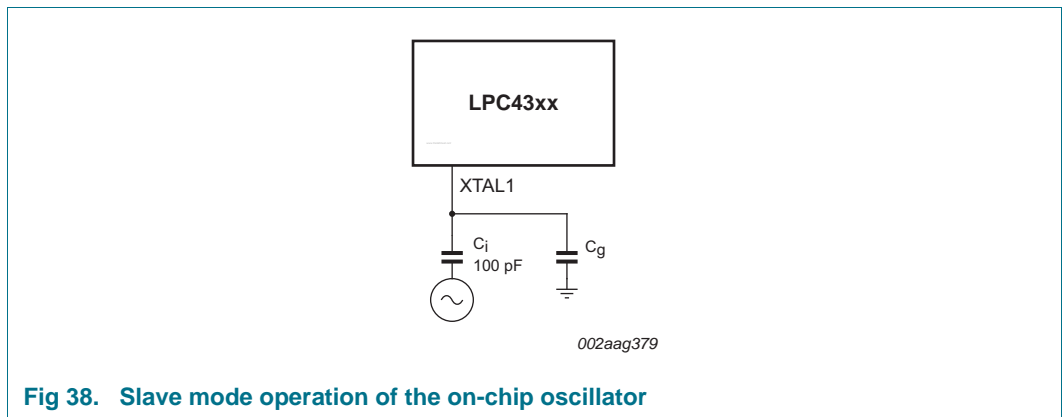

Fig 38. Slave mode operation of the on-chip oscillator
- In slave mode, couple the input clock signal with a capacitor of 100 pF (C_C in Figure 38), with an amplitude of at least 200 mV (RMS). The XTAL2 pin in this configuration can be left unconnected.